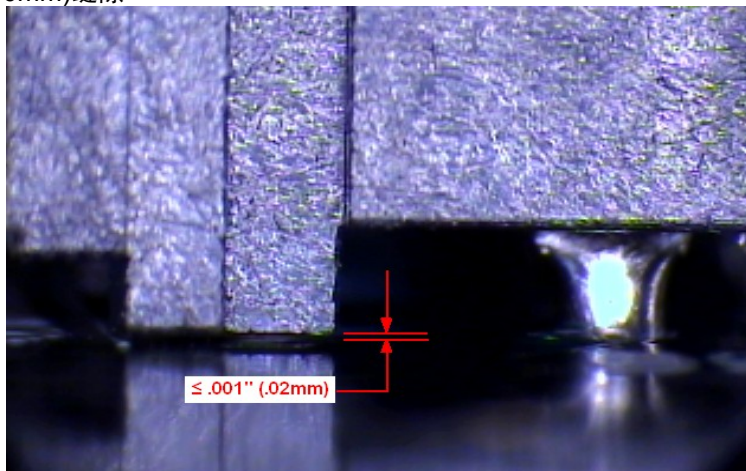

Fig. 5. The insulator housing of a reflowed SEARAY™ connector will rest on the board surface or slightly above. SEARAY™ 连接器的绝缘胶壳在回流后与主板之间没有或有一丝缝隙。
- As the solder charges reflow, the weight of the connector causes it to settle so that the body rests on or slightly above the board after processing. This phenomenon is why the upper coplanarity specification of .009" (.22mm) is acceptable for the SEARAY™ connector family (see **Fig. 5** below). 当 Solder Charge 回流时，连接器的重量使其下垂并安放在板上，从而在回流后连接器胶壳接触主板或与其间有很小缝隙。这种现象正说明了 SEARAY™ 系列产品共面度上限 0.009"(0.22mm)是可接受的。(见下面 **Fig. 5**)